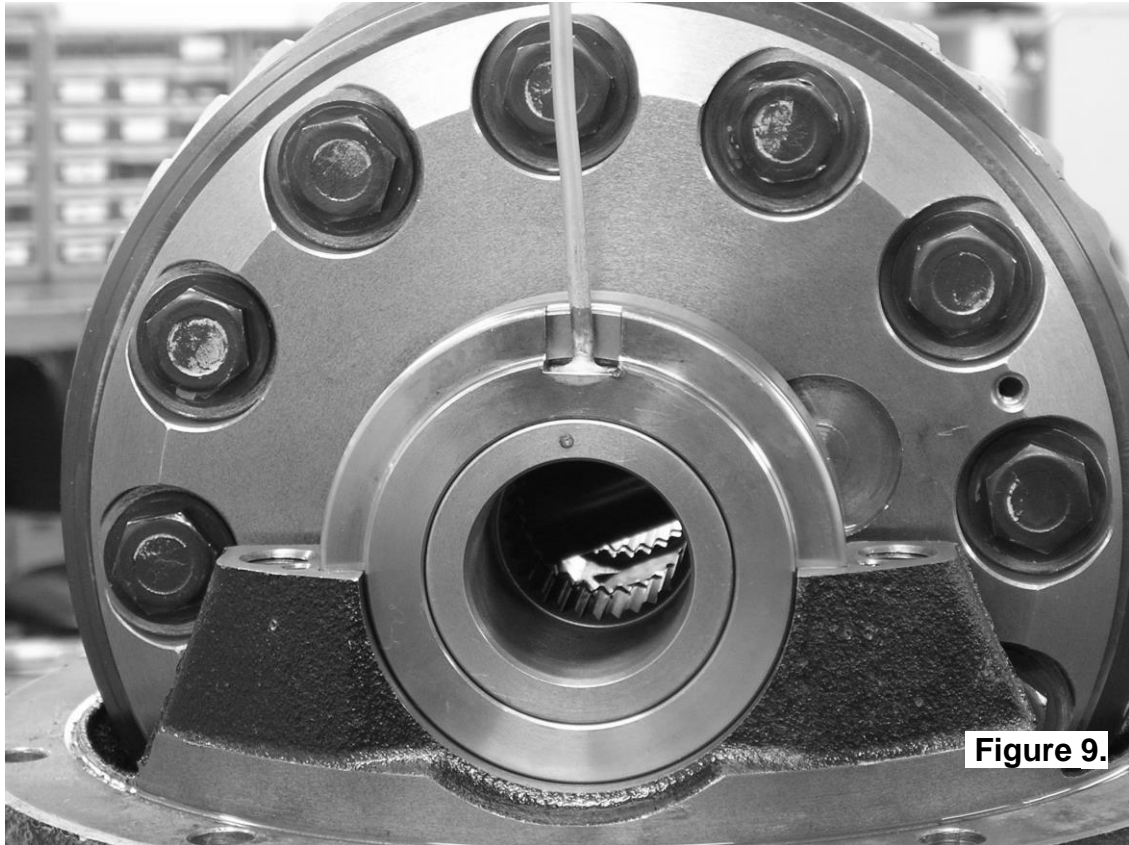

Figure 9.
- ☐ Reinstall the *Air Locker* into the differential housing, ensuring that the seal housing is positioned so that the tube will point straight up through the hole in the bearing cap (Fig. 9.)